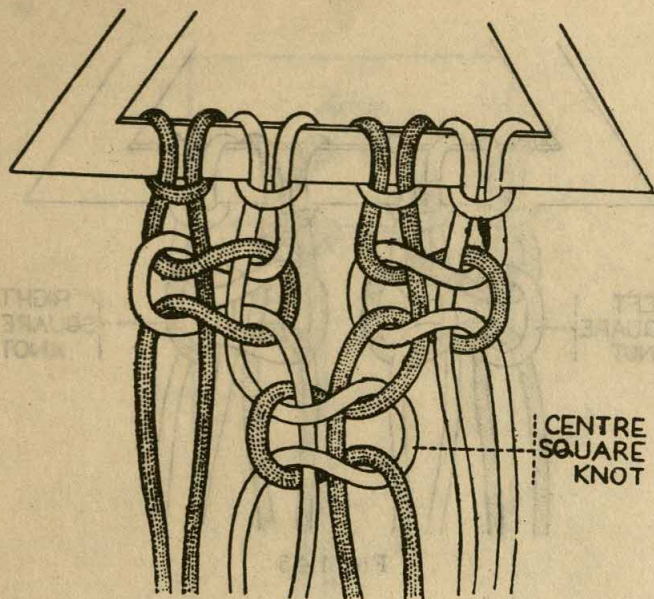

FIG. 1.4.6
7. Now make the centre square knot by using two cords each from the left and right knots as shown in the figure 1.4.6.